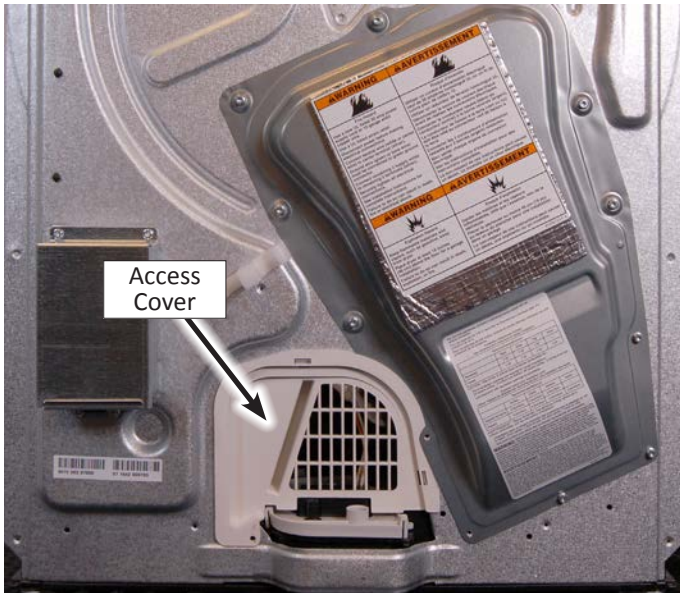

Figure 4
7. Remove the plastic access cover and set aside (see Figure 4).